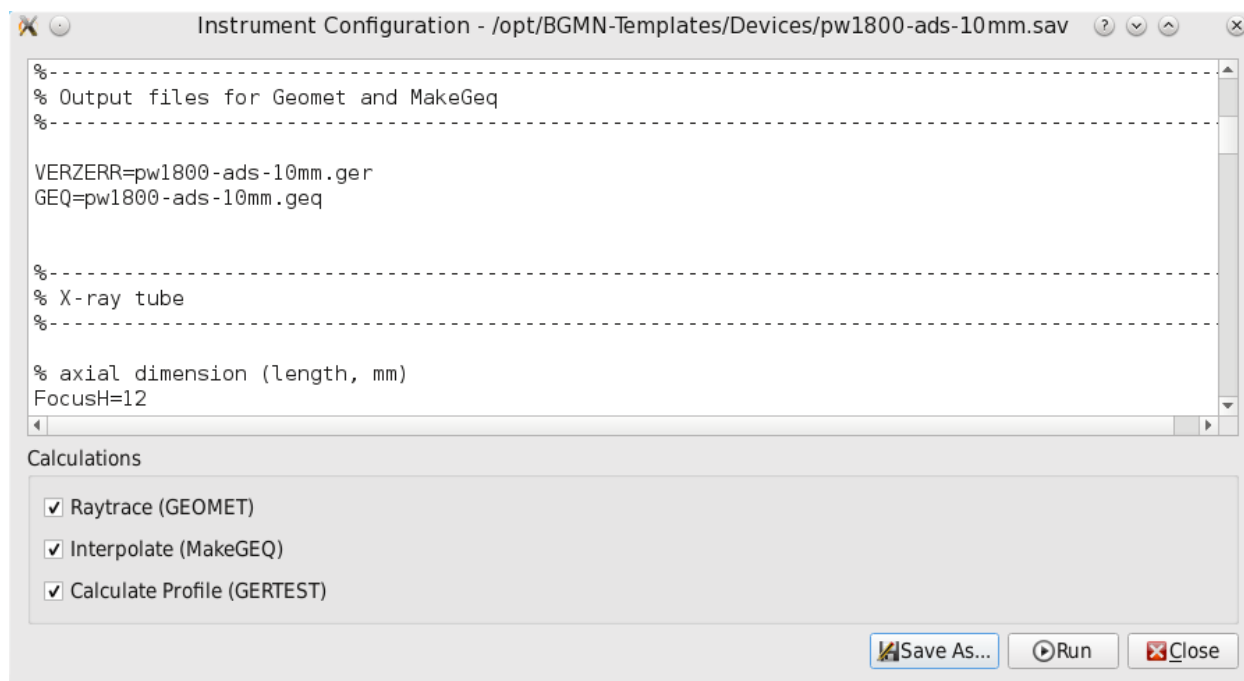

Figure 12: „Instrument → Edit Configuration...” opens a dialog to edit an existing instrument configuration.
2. The instrument dialog shown in Fig. 12 will be shown. Edit the file as intended.